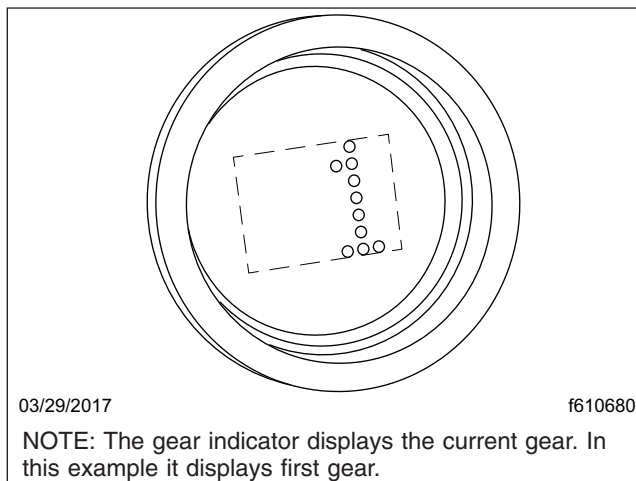

Fig. 15.7, Gear Display Module
- The gear display module (Fig. 15.7) mounted on the dashboard indicates the current gear position or transmission status. The display also flashes the next gear to be engaged while the transmission is in neutral during a gear change.